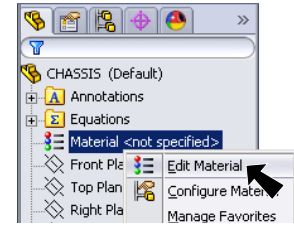

Fig. 42
Step 1. Right click Material  in the Feature Manager and click Edit Material , Fig. 42.